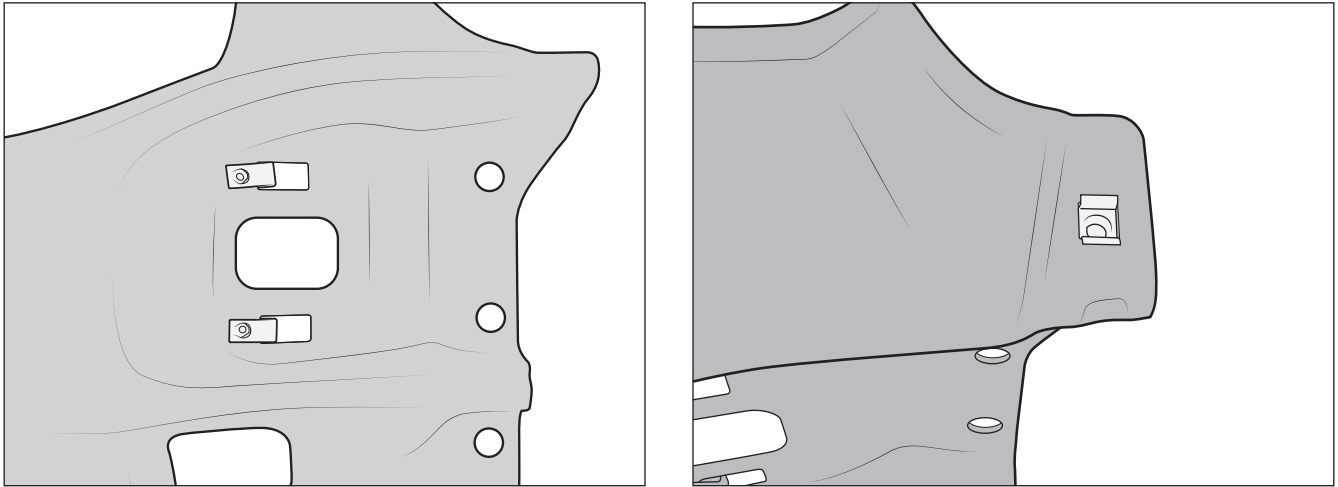

Figure 21
- A. Install provided #8 U-nuts (not the larger M8) to the face of the bumper center and cage nuts to the top outboard holes (fig. 21).